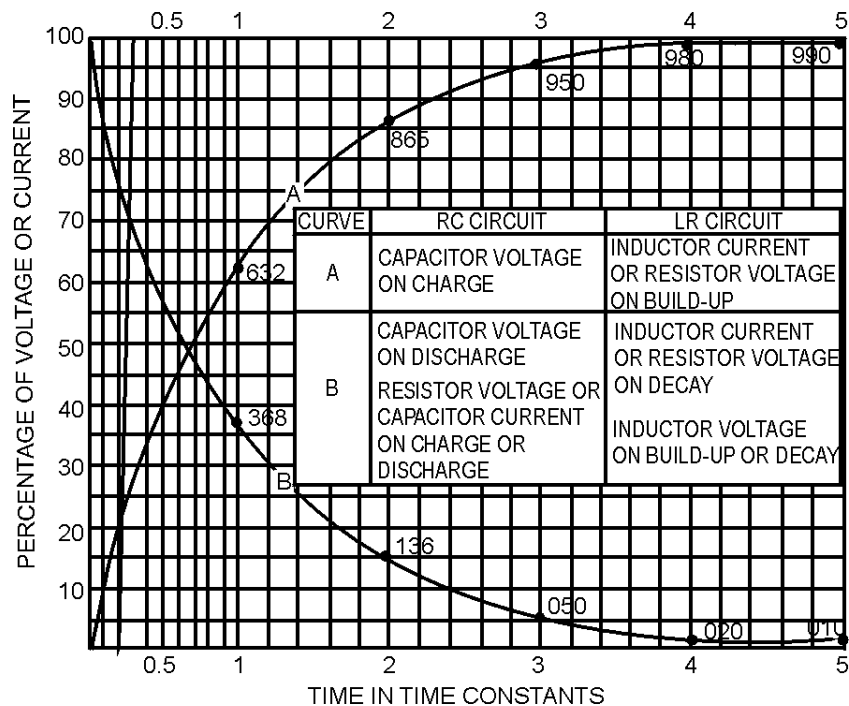

Figure 3-12.—Universal time constant chart for RC and RL circuit.
Because the impressed voltage and the values of R and C or R and L in a circuit are usually known, a UNIVERSAL TIME CONSTANT CHART (fig. 3-12) can be used to find the time constant of the circuit. Curve A is a plot of both capacitor voltage during charge and inductor current during growth. Curve B is a plot of both capacitor voltage during discharge and inductor current during decay.
Find the value of RC by referring to the universal time constant chart in figure 3-12 and proceed as follows:
- Q15. A circuit is to be designed in which a capacitor must charge to 40 percent of the maximum charging voltage in 200 microseconds. The resistor to be used has a resistance of 40,000 ohms. What size capacitor must be used? (Use the universal time constant chart in figure 3-12.)*